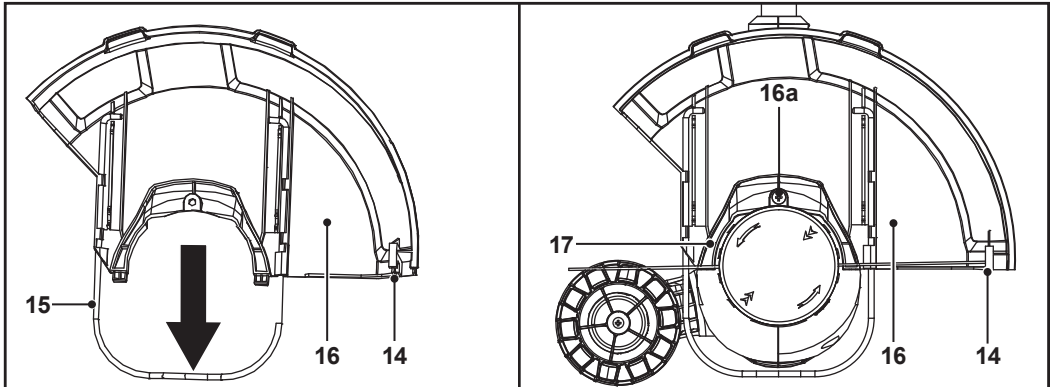

Fig. 2
**WARNING!** THE LINE CUT-OFF BLADE (14) ON THE GUARD (16) IS SHARP. FAILURE TO AVOID CONTACT CAN RESULT IN SERIOUS PERSONAL INJURY.
1. Place the guard (16) onto the cutting head (17) (Fig. 2).
2. Fix the guard (16) with the screw and the washer (16a) (Fig. 2).